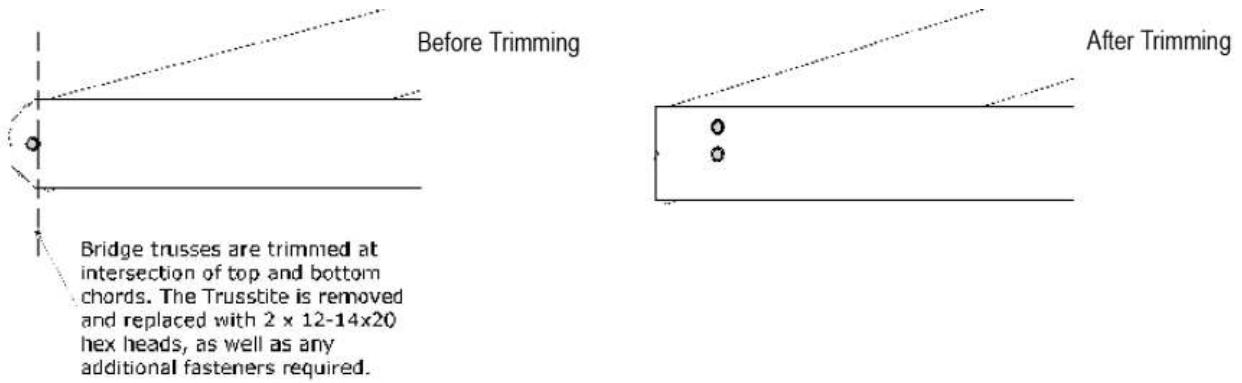

Figure 7.28g
**STEP: 8** The bridge trusses require to be trimmed at intersection of top and bottom chords. Refer to figure 7.28g.